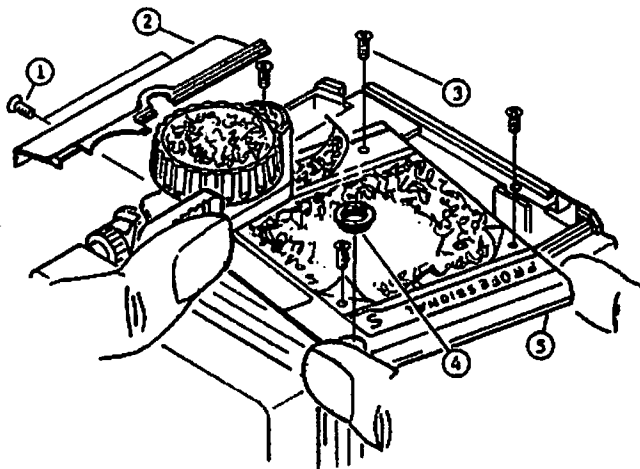

Fig.2
- (1) The arabic numeral in a circle indicates the procedure of removing.
- (2) Press down the cocking lever and slide Left panel forward, then pull out upward as shown in Fig 2.